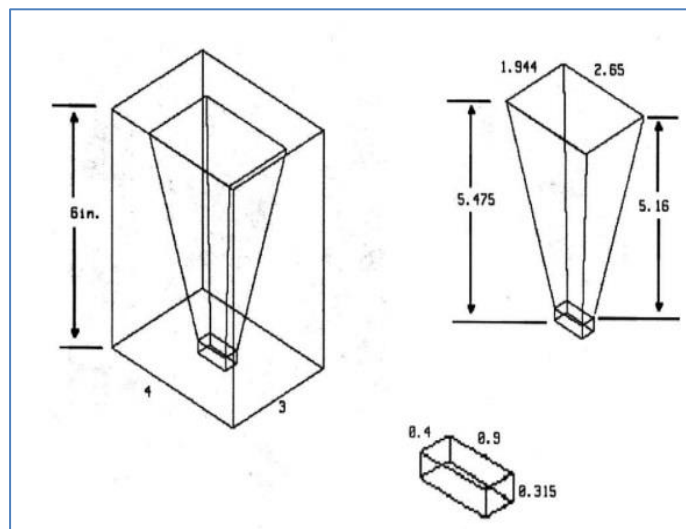

Figure 14.1: Horn antenna
1. Design and test a pyramidal horn antenna as shown in the figure 14.1 operating at a frequency of 3 GHz with the following specifications:
1. Calculate the beamwidth of the horn antenna as shown in the figure 14.1 based on its dimensions and operating frequency. Compare the calculated beamwidth with the measured beamwidth from the radiation pattern measurement.